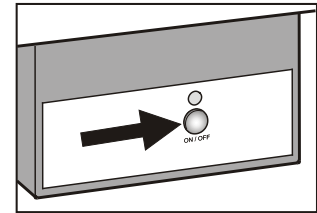

Figure 23
- Press the **On/Off** button so the Ice Maker LED comes on (Figure 23).